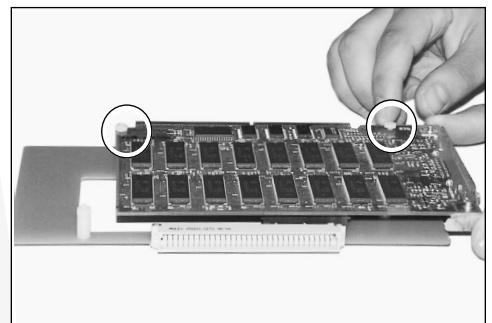

Figure 14: Secure AV card to adapter board with nuts
- Secure the AV card to the video adapter board with the two nuts (**Figure 14**) supplied with the adapter kit.